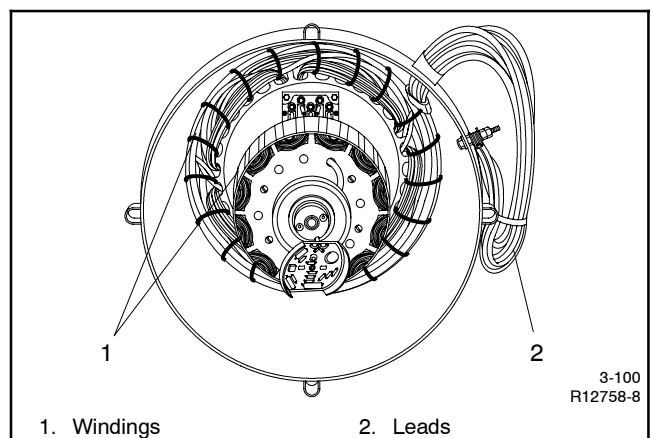

Figure 3-13 Stator
- Shorted windings: Inspect for burnt or hot windings. Replace the stator if these conditions exist. See Figure 3-13.